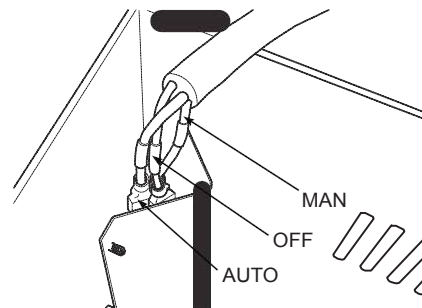

Figure 10 - Feeding Wire Harness
10. Insert the wires marked with AUTO, OFF and MAN into wire slot in the right corner. Feed them as close to the bottom of the firebox as possible (see Figure 10).